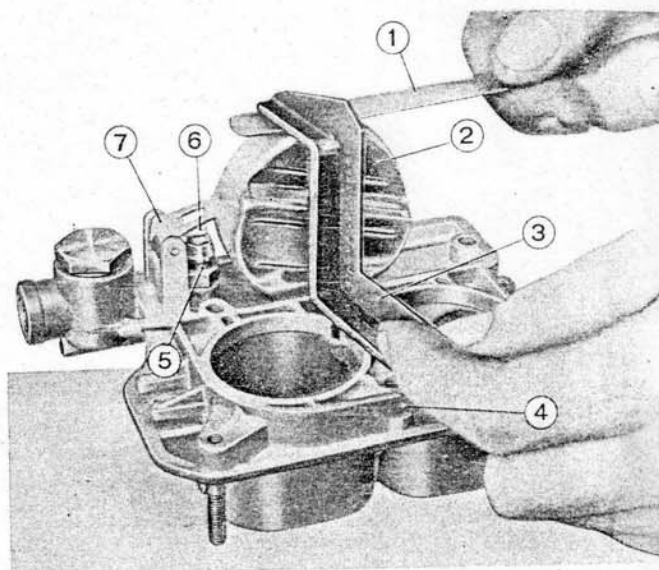

Fig. 35. - Checking float level.
- rest square A. 95130 to the inner face of carburetor cover (see fig. 35);